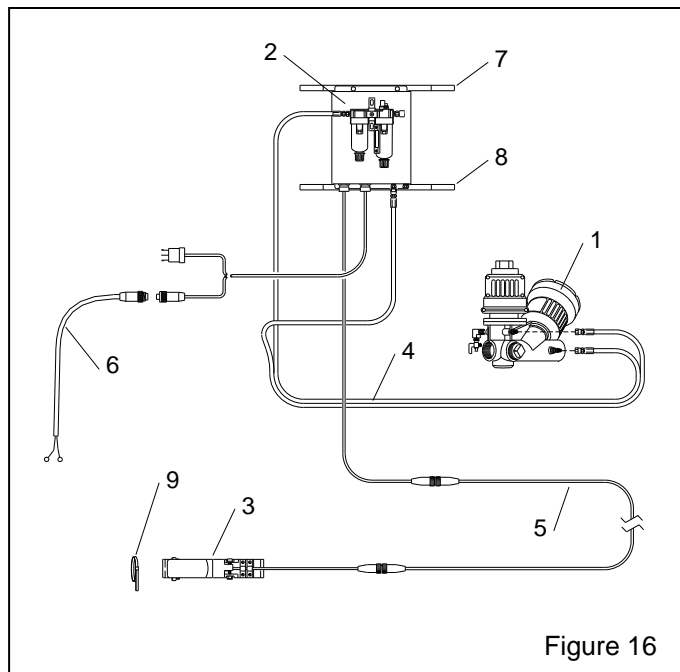

Figure 16
**8.3 Remote Control System Parts, Figure 16**